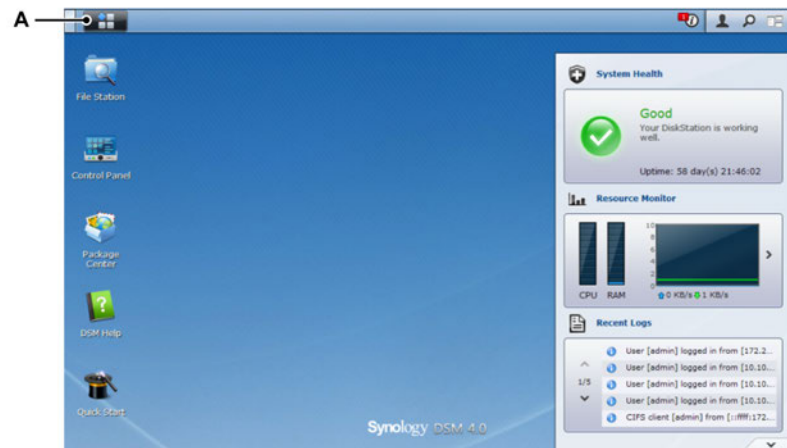

Figure L.7: Home screen
- 5 When logged in and on the home screen, click the main-menu icon (A) as shown in Figure L.7.